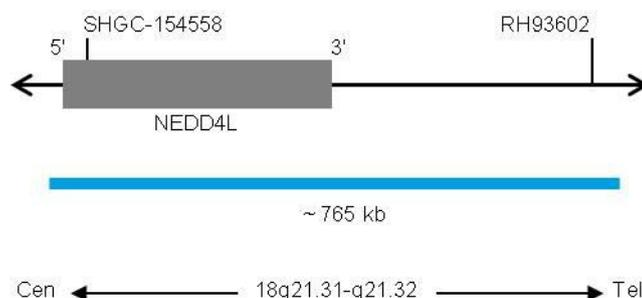

Fig. 1: SPEC 18 Probe map (not to scale)
- ZyBlue (excitation at 418 nm and emission at 467 nm) labeled polynucleotides (~37.0 ng/μl), which target sequences mapping in 18q21.31-q21.32* (chr18:55,690,725-56,455,119) (see Fig. 1).